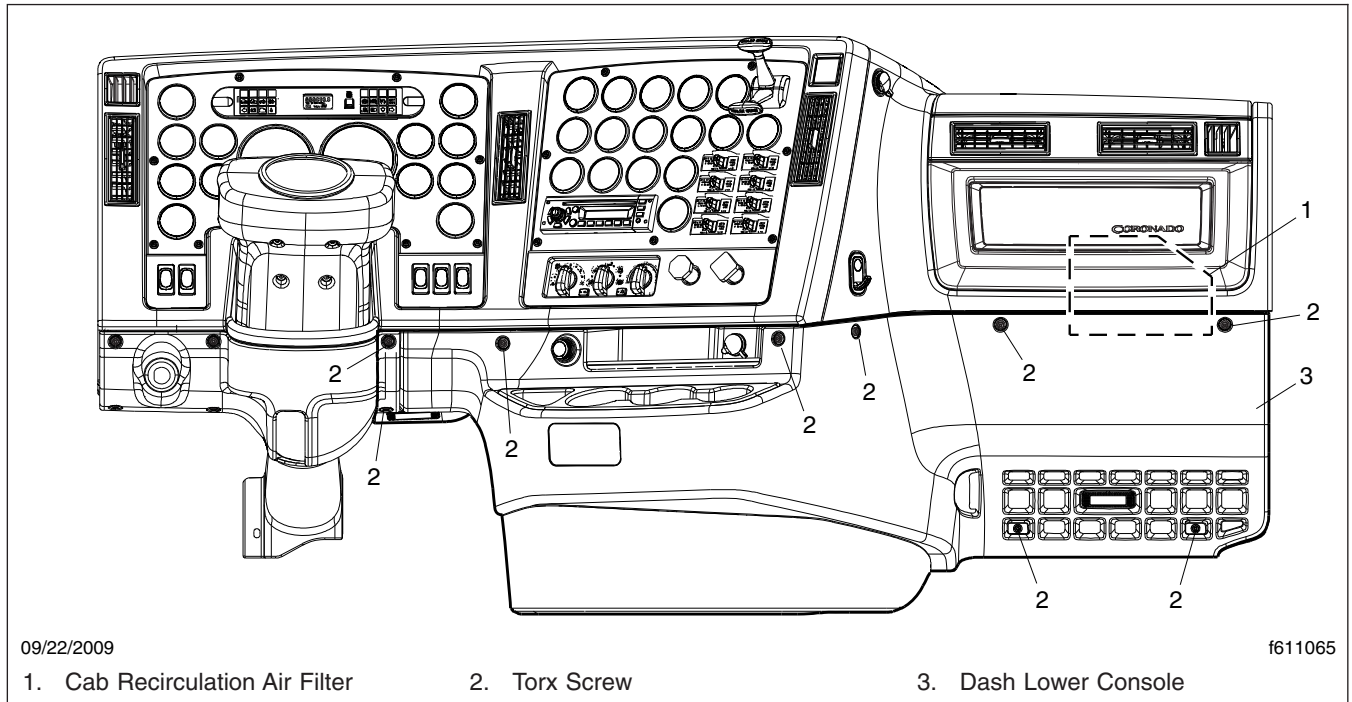

Fig. 3, Cab Recirculation Air Filter Location
The cab recirculation air filter must be replaced every six months, regardless of mileage, to permit proper operation of the HVAC system. The filter can be accessed by removing the dash lower console. See Fig. 3.
2. Remove the dash lower console. The lower console is secured by nine Torx screws; see Fig. 3.
7. Install the dash lower console. Tighten the Torx screws 24 to 30 lbf-in (270 to 340 N-cm). See Fig. 3.